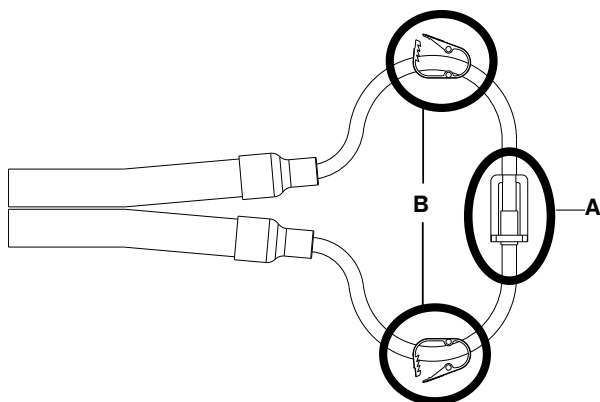

Figure 28 – Clik-Tite hose ends are closed and clamps are open
- b. If you have **Clik-Tite** hoses, make sure that the connector ends are connected and closed (A), and clamps are open (B). Complete this for all three hoses. Figure 28